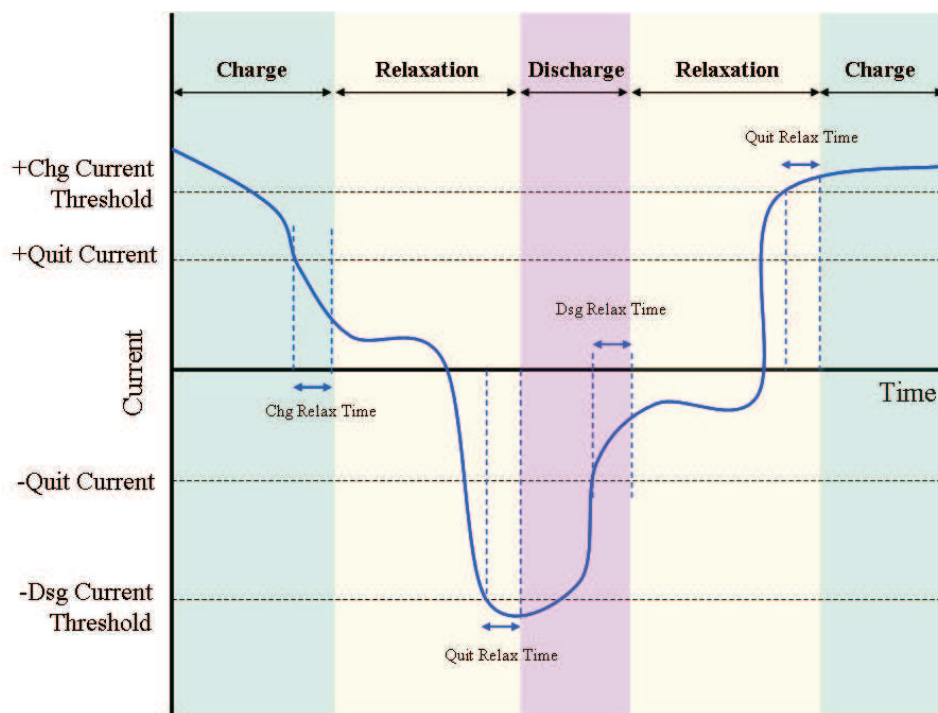

Figure 10. Example of Algorithm Operation Mode Changes With Varying *DataRAM.Average Current()*
The algorithm differentiates between *charge*, *discharge*, and *relaxation* modes of operation. During *charge* mode, the *DataRAM.Flags*() [*DSG*] bit is cleared, and during *discharge* and *relaxation* mode, it is set. Entry and exit of each mode is controlled by Data Flash (DF) parameters in the subclass Gas Gauging: Current Thresholds section as illustrated in Figure 10. Charge mode is exited, and relaxation mode is entered when *DataRAM.Average Current*() goes below *DF.Quit Current* after *DF.Chg Relax Time* period. Discharge mode is entered when *DataRAM.Average Current*() goes below *DF.Dsg Current Threshold* and after *DF.Quit Relax Time* period. Discharge mode is exited, and relaxation mode is entered when *DataRAM.Average Current*() goes above negative *DF.Quit Current* threshold and after *DF.Dsg Relax Time* period. Charge mode is entered when *DataRAM.Average Current*() goes above *DF.Chg Current Threshold* and after *DF.Quit Relax Time* period.